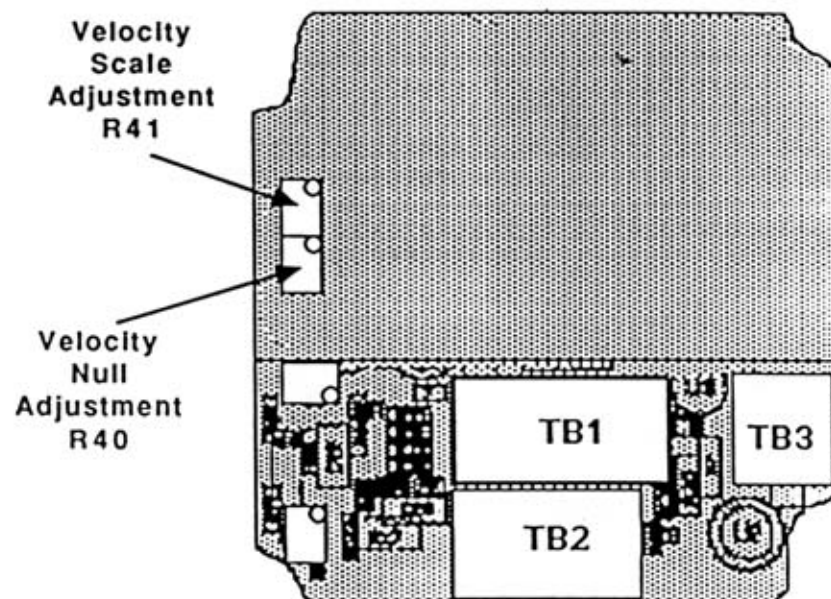

Figure 2-2. Velocity Adjustments on the AOM
The following procedure provides the velocity null adjustment; the velocity full-scale adjustment requires special equipment. Refer to Figure 2-2.
2. Note the location of terminal board TB1 on the AOM (Refer to Figure 2-2). Connect a peak reading DVM (digital voltmeter) or oscilloscope across pins C and D of terminal board TB1 to monitor the velocity signal. Apply power to the system.